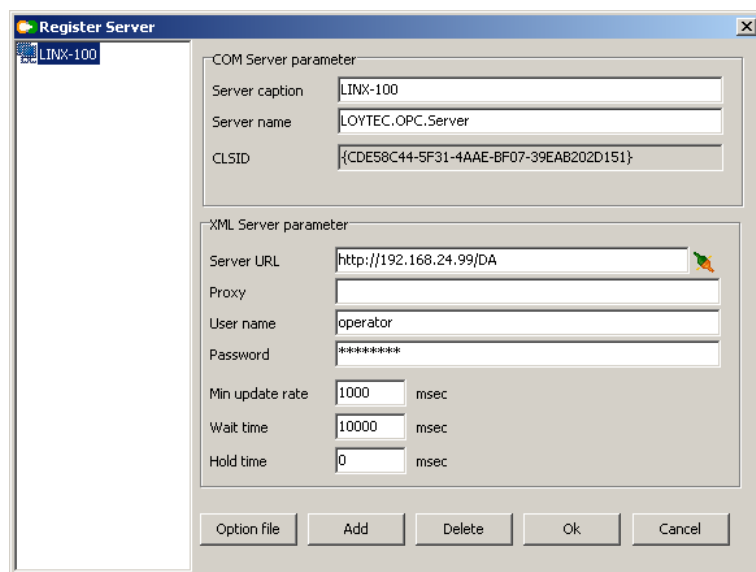

Figure 143: Register Server dialog in the bridge software.
5. A new server entry is added. Enter the information on **Server caption** (this is displayed), **Server name** (this is the COM object name), and the **Server URL** (the URL of the LINX-10X device) as shown in Figure 143.